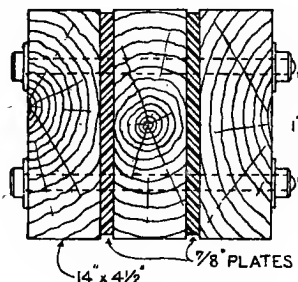
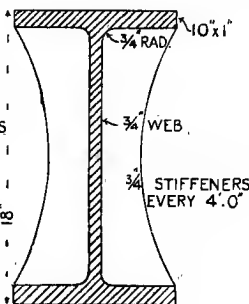
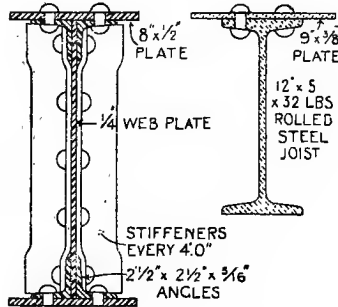
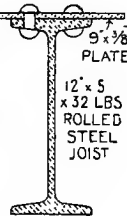

Fig. 1
Fig. 2
Fig. 3
Fig. 4
Pattern for a Ship's Ventilator.—To cut the pattern for a ship's ventilator in four pieces, first draw a side elevation of the required size, then divide the throat curve into a number of equal parts, corresponding to the number of sections required for the ventilator. Next divide the top curve, forming the top of the ventilator into the same number of equal parts used for the throat, and also draw the semicircle AG (Fig. 1). Join the division points on the throat and top curve by straight lines; these would show the four sections whose patterns are to be developed. As the method of working would be the same for each section, the method adopted for the section AG, $a^2 g^1$ (whose half-pattern is shown by Fig. 2), could be applied for developing the remaining three sections. A very near approximation to an accurate pattern is obtained by assuming that each section is a part of an oblique cone, and if this be done, the semicircle AG (Fig. 1) would be the half-plan of the base of an oblique cone containing the first section. Now join Aa^2 and $G^1 g^1$, and also draw a line from g^1 parallel to AG to cut Aa^2 ; then this line could be assumed to show the smaller end of the frustum of the cone on the elevation. Draw projectors from $a^1 g^1$ to join AG, and with half this length as radius draw the semicircle ag to show the plan of the small end. Next divide the semicircles into a similar number of equal parts as A, B, C, a, b, c, etc. From the division points B, C, D, E, F draw projectors to $A^1 G^1$, and from b, c, d, e, f draw projectors to join $a^1 g^1$. Join $B^1 b^1, C^1 c^1, D^1 d^1, E^1 e^1, F^1 f^1$,
drawn from b^2, c^2, d^2, e^2, f^2 join the lines with corresponding letters in plan; draw lines from the points found at right angles to the plan lines, and on these lines mark off the perpendicular height of b^2, c^2, d^2, e^2, f^2 when measured from the line $a^1 g^1$. Now join b, c, d, e, f to their respective upright heights, marked on each right angle to obtain the true slants of the lines produced to cut $a^2 g^1$. To work the pattern, mark on a straight line the length $A^1 a^1$ (Fig. 1). With the true length of the diagonal joining a to B as radius, and using a^1 (Fig. 2) as centre, draw an arc; with the division length AB as radius, and A^1 (Fig. 2) as centre, cut the arc first drawn. Next, with the true slant of the line Bb as radius, and using B^1 on the pattern as centre, draw an arc. With the division length a b as radius, and a^1 on the pattern as centre, cut the arc last drawn at b^1 ; this would give the points $A^1 a^1, B^1 b^1$ on the pattern. The remaining points are obtained by repeating the working for each division, using the slants and diagonals in their proper order for obtaining the points $C^1 c^1, D^1 d^1, E^1 e^1, F^1 f^1$ to complete the top part of the pattern. Join the points $A^1 a^1, B^1 b^1$, etc., on the pattern by straight lines, and produce them below the inner curve, then add the length $a^1 a^2$ (Fig. 1) from a^1 to a^2 on the pattern. Transfer the true slant of the line $b^1 b^2$ (obtained from the triangle drawn on the plan) to the pattern, marking from b^1 to give the point b^2 ; transfer the remaining true slants to the stripes with corresponding letters on the pattern, and draw a curve through these points to finish the half pattern for one section. By repeating the method of working shown for each section, the pattern for the complete ventilator would be obtained. Allowances for hollowing, seams, etc., must be made to the pattern as shown.
Running Return Bead round an Arch.—To work a return head round the arch shown by Fig. 1, a mould is prepared to the required shape, and fixed to a radius rod, as shown in Fig. 2. The flat part of the wall is roughed in, and the head is run in coarse stuff by the aid of the mould, which also works a part of the soffit, the rest of which between the two beads is done with the floating rule. After all the work has been roughed in ready for the finishing coat, the mould is readjusted so as to be in position to work the finished bead, which is usually done in Keene's cement. The part of the head
Working a Ship's Log.—The speed of a ship is ascertained by the "patent log" or by a "log ship" and sand glass, the latter still being preferred by most sailing ship masters. The "log ship," two forms of which are given in Figs. 1 and 2, is hove over the weather quarter attached to the log line divided into "knots," a "knot" bearing the same proportion to a mile as the sand glass running in seconds does to an hour. Sand glasses, or "log glasses," are made to run 14 seconds and 28 seconds (the former being for use when fast travelling, and the knots by line have of course to be doubled if spaced for 28 seconds). It must be remembered a nautical mile is 2,027 yd., usually called 6,080 ft. It corresponds with the minutes of arc; thus there are $360 \times 60 = 21,600$ of arc, or nautical miles, on a "great circle" (or the equator). The number of yards therefore in a "great circle" divided by 21,600 will give the number of yards in a nautical mile. In calculating the length of a knot in feet, the rule adopted is this. To the seconds run by the glass affix a cypher and divide by 6. The remainder when doubled gives the inches. Thus for a 23-second glass $\frac{230}{6} = 46 + 4$, or the distance between adjacent knots = 46 ft. 8 in. This is not correct, but the error is for safety, as the ship, unaffected by favourable currents, will be behind her position by log or "dead reckoning," as it is called. To calculate the exact length between adjacent
knots on the line, multiply 2,027 by 14 or 28 and divide by 3,600. Fig. 1 is the wooden log ship; it is a wooden quadrant about $\frac{1}{2}$ in. thick and 10 in. diameter, the arc being weighted with lead to make the log float vertically. The end of the log line L passes through a hole and is secured by knotting at the back, while a wooden peg P is attached to a span B from the line L. When the log line is suddenly checked in its running out, this wooden peg withdraws its hold in the quadrant, and the log ship is hauled in with ease. The canvas log is shown in Fig. 2. The log line is attached at D to the canvas bag C, at the mouth of which is a span seized to the peg at E, which is pushed into a wooden ferrule W seized to the log line; when the line is checked the peg withdraws as in the former case, and the bag closes, being hauled in bottom foremost. The "patent log," by which name the several revolving logs go at sea, is self-registering, and not hove at intervals as the former kind. A meter is clamped to the taffrail, showing on its face by three hands the units, tens, and hundreds of nautical miles run since the last setting, which is done at noon. This meter is a simple train of wheels to which motion is imparted by a threaded pin. At the back of the meter and attached to the pin is a brass universal joint J (Fig. 3), to which is secured the end of a line sufficiently long to clear the eddies and backwash of propellers, etc. At the other end is the spinner S, a three-bladed brass fan, pitched to revolve at such a speed that after being towed one mile the unit hand on the meter shall have made one revolution from 0 to 0, the intermediates being marked $\frac{1}{2}$, 1, 2. Sometimes a light fly-wheel is attached to the line just abaft the taffrail, but this is not really necessary. Ball bearings between a cone collar on the shaft and a dished
How to Make a Bevel Set-square.—Fig. 1 shows a side elevation of a carpenter's bevel set-square of suitable dimensions for setting out diminished stile doors constructed of plank widths; but a much smaller tool would be more handy for general purposes. The tool consists of two parts: a skeleton set-square made of steel or stout zinc, the former preferably, and an adjustable stock working in a slot which is about two-thirds the length of the long edge of the square. The stock is very similar to that of an ordinary bevel, except that it is in two parts which are connected at the ends by means of clamping set-screws, as shown in the end elevation (Fig. 2);
it is applied. The tool can easily be changed into a perfectly true mitre square by fixing the stock at equal distances along both edges from the angle, or it can be used as an ordinary bevel. A wooden instrument based on the same principles is used by some joiners, but it is a clumsy article, and cannot be finely adjusted. The tool can be used as a set-square, or, by clamping down the stock in the position shown by dotted lines in Fig. 1, as a try-square.
the tool can thus be adjusted to almost any position. Fig. 3 is a part elevation of a diminished stile door, shown in order to explain the application of the tool in setting-out the shoulders of the joint. This is shown in detail at Fig. 4. The dotted lines on the part A are the setting-out lines for the rail, and those on the part B are the setting-out lines for the stile. Figs. 3 and 4 should be compared. The rail and stile are shown separated in the sketch for the purpose of illustrating the method of using the square. Fig. 5 shows another joint where the tool can be applied with advantage. Fig. 6 shows the tool being used as a pitch-board; it can be worked from either edge of the string, and although it does not do away with the wooden pitch-board itself, no sliding slip is required, while its thinness and metal edges enable a much cleaner job to be made with the striking-knife. Fig. 7 shows the tool applied to roofing. A number of rafters can be laid side by side, and the length squared across them with a line at both ends. The stock of the square is then set to the pitch of the roof, and both bevels are obtained at once; no awkward moulds require to be lifted up and down, and both the bevels and the square are comprised in the same instrument. Fig. 8 shows a mitred joint of two different thicknesses of wood; the thick lines show the edges of the square when
Comparative Designs of Girders.—Assuming the load is 10 tons distributed over a span of 18 ft., the calculations will be as follows. (1) Fitch beam: $W = \frac{d^3}{L} (C b + 30 t)$; where W = breaking weight in cwt. in centre; d = depth in inches; L = span in feet; C = constant = 3 for Memel; b = total breadth of timber in inches; t = thickness of fitch plate in inches. Factor of safety, 10. One or two trial designs may be necessary before finding a suitable one, when Fig. 1 may be decided upon. Ten tons distributed = 5 tons
in centre multiplied by 10 for breaking weight = 50 tons = 1,000 cwt. Breaking weight = $\frac{14 \times 14}{18} (3 \times 14 + 30 \times 14) = \frac{98}{9} (42 + 524) = \frac{98 \times 944}{9} = 1,029$, or a trifle in excess of the strength required. (2) Cast-iron girder: Depth, say, one-twelfth of the span = 18 in. Stress in bottom flange $\frac{W l}{8 d} = \frac{10 \times 18}{8 \times 15} = 15$ tons. Allow $1\frac{1}{2}$ tons per square inch in tension; $\frac{15}{1\frac{1}{2}} = 10$ sq. in. Make top flange same size to allow width for building upon and possible tension in top flange from ends being built in, so that the section will be as Fig. 2. (3) Wrought-iron plate girder: For the same depth the stress in bottom flange will be as found above = 15 tons. Allow 4 tons per square inch on the gross sectional area = $3\frac{3}{4}$ sq. in. Say, one $\frac{1}{2}$ -in. plate 8 in. wide for each flange, with 2 $\frac{1}{2}$ -in. by 2 $\frac{1}{2}$ -in. by $\frac{1}{2}$ -in. angle irons, and $\frac{1}{2}$ -in. web, and stiffeners every 4 ft., as in Fig. 3. Rolled steel joist: By reference to Dorman Long & Co.'s section book, a 12 in. by 5 in. by 32 lb. rolled steel joist will carry 10 tons distributed over a span of 18 ft.; but 5 in. is narrow to build upon, and a $\frac{3}{4}$ -in. top plate would be a desirable addition, as in Fig. 4.